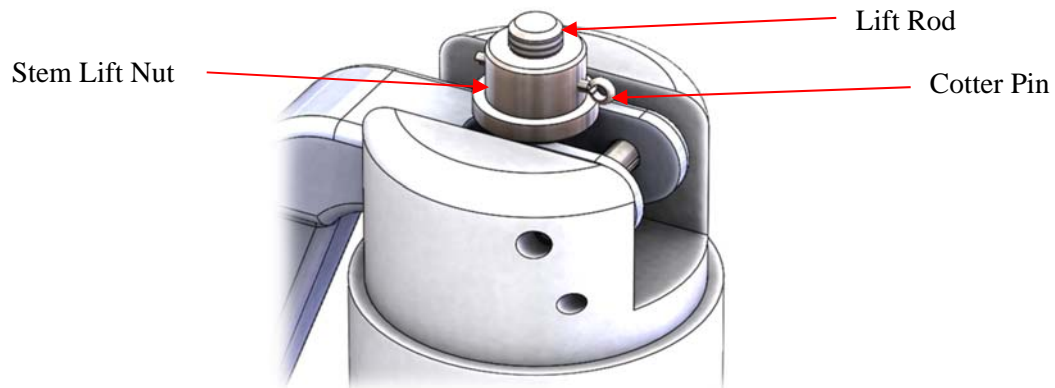

Figure 33: Upper Portion of Lift Lever Cap
2. Bend straight and pull out the cotter pin. See Figure 33. Set it aside.
3. Unscrew and remove the stem lift nut. See Figure 33.